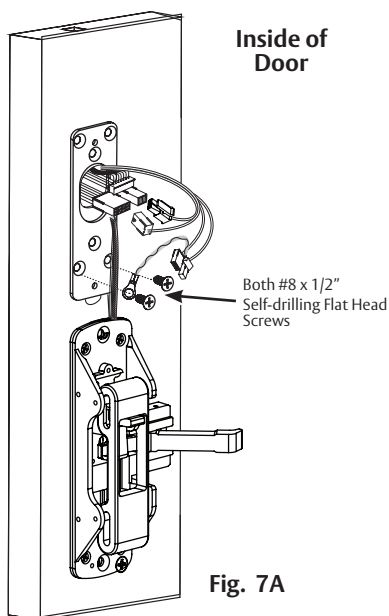

Fig. 7A
1. Attach the mounting plate using two (2) #8 x 1/2" lower screws (Fig. 7A).